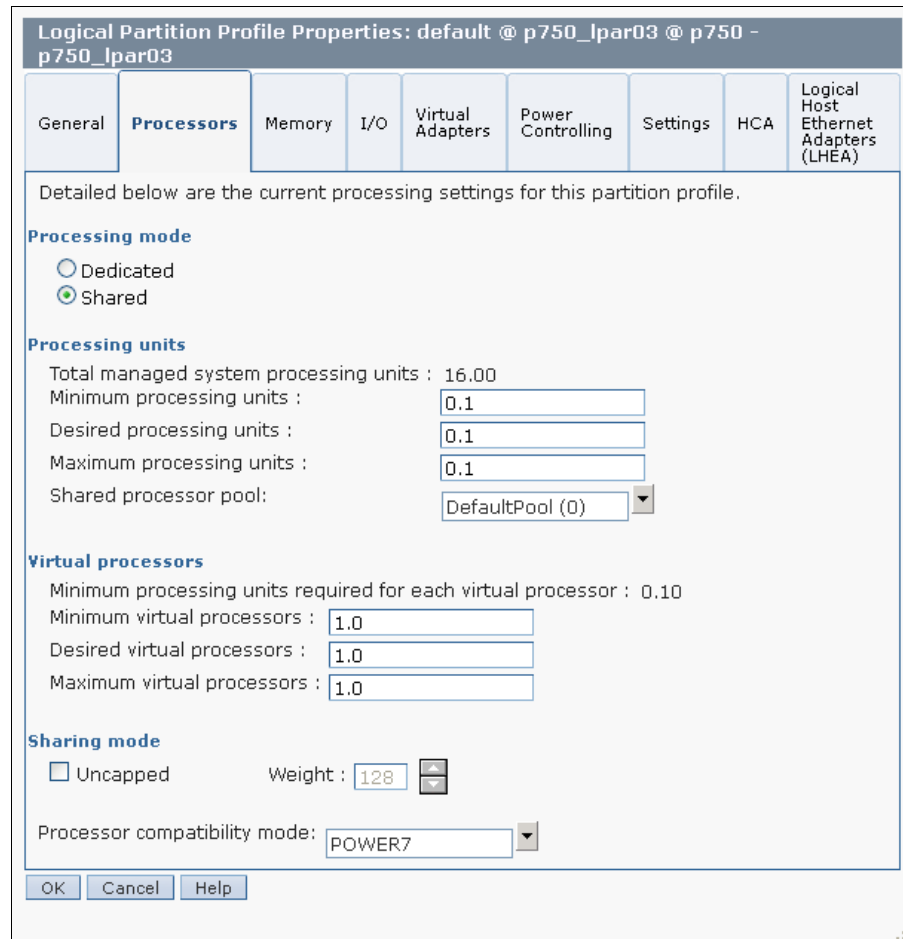

Figure 2-1 Changing dedicated processor partitions to micro-partitions
2. On the new panel, click the **Processor** tab, then select **Shared** as shown in Figure 2-1. Click **OK** to save the changes.